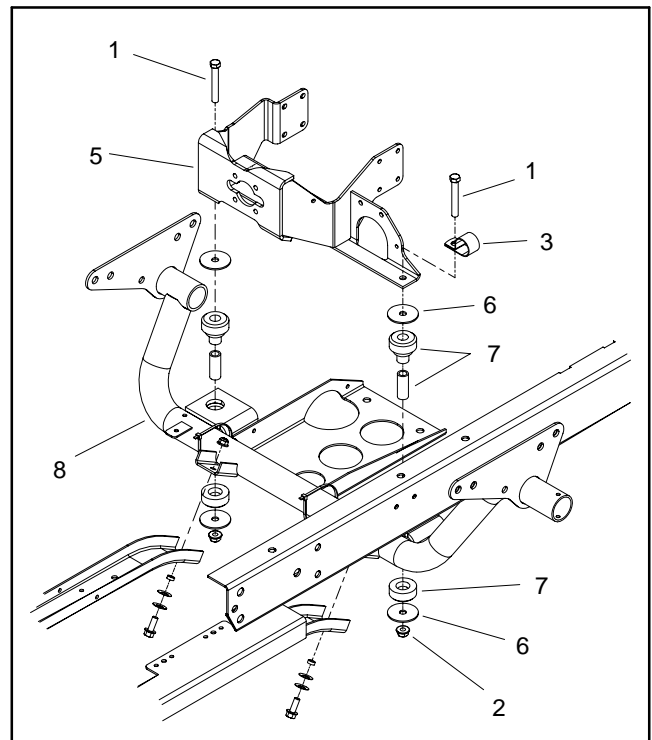

Figure 17
15. Loosen and remove two (2) flange nuts, snubbing washers and cap screws that secure engine mount to engine support (Fig. 17).
6. Make sure that snubbing washer is positioned on top of both engine mounts (Fig. 17).
9. Secure engine mount to engine support with two (2) cap screws, snubbing washers and flange nuts (Fig. 17).
12. Install upper and lower radiator hoses to engine and secure with hose clamps. Install R-clamp (item 35) to secure lower radiator hose to engine mount.
18. Install exhaust tube (item 28) to vehicle (see Exhaust System Installation in this section).